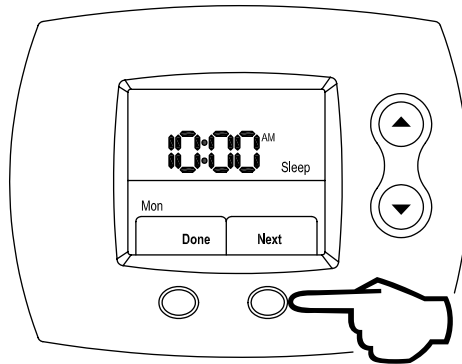

Figure 97
Step 23: Press the **RIGHT** (Next) button to lock in the Sleep period time, which is shown in Figure 97.